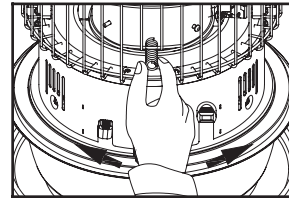

Fig. 11
After fueling the fuel tank of the heater by using siphon pump, make sure that you loosen (counter clock wise) the cap on the siphon pump to drain throughly the remaining kerosene in the siphon pump. For the reuse of siphon pump, make sure that you tighten (clock wise) the cap on the siphon pump to transfer the kerosene into the fuel tank properly. (Fig.11)
- Rotate the burner knob from side to side a few times to make sure that the burner is positioned properly on the wick adjuster. (Fig. 11)